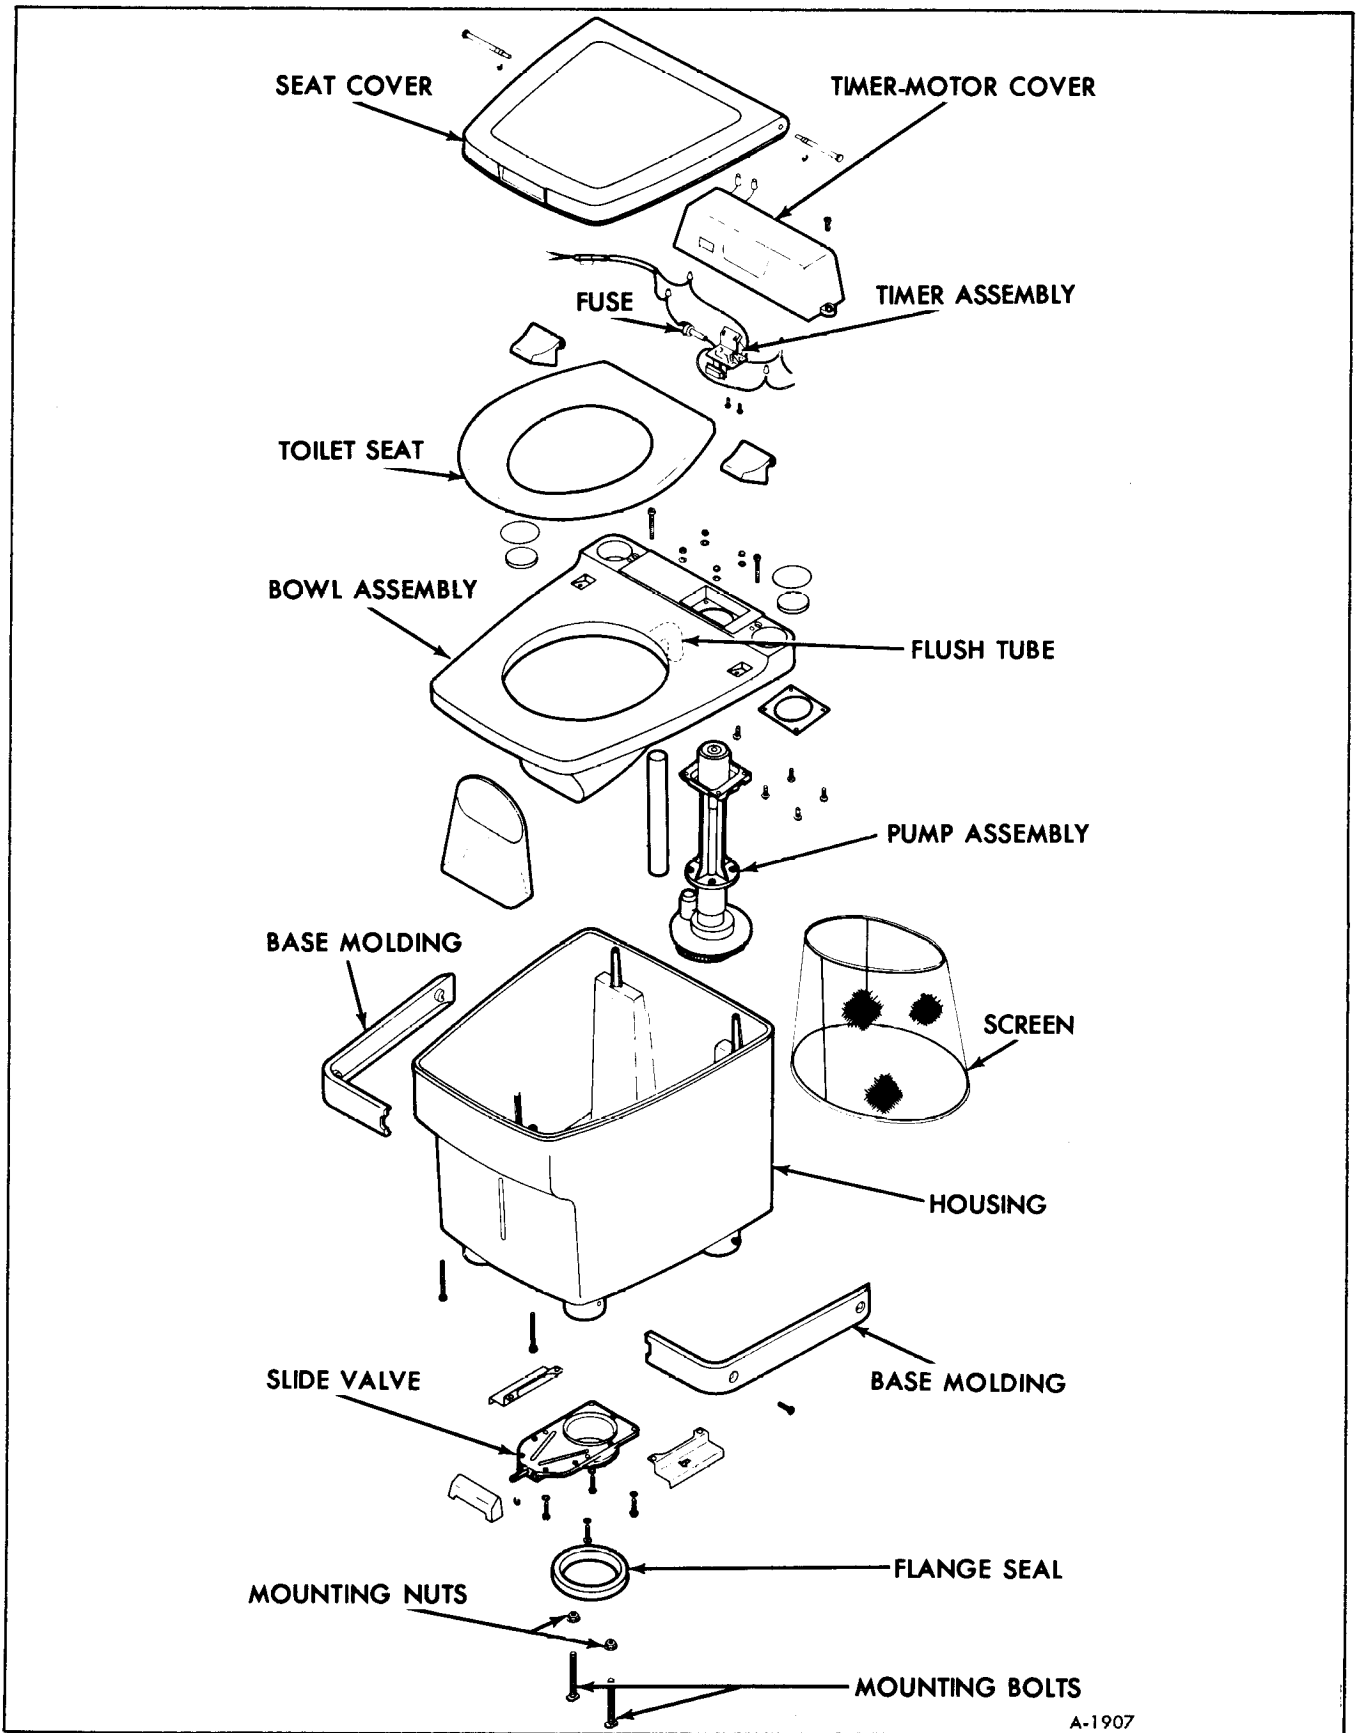

Figure 3-Recirculating Toilet Components
## DISASSEMBLY AND REPAIR (FIGURE 3)
2. The fuse is now accessible for checking or changing, see Figure 3.
1. Disconnect lead wires from power source (figure 3).
3. Disconnect leads from pump assembly motor (figure 3).
5. Remove cover and bowl assembly screws (two in rear from top side and two in front from bottom side) and remove cover and bowl assembly (figure 3).
6. Remove four pump mounting screws (figure 3).
7. Disconnect flush tube from pump outlet (figure 3).
8. Remove pump assembly (figure 3).
### SLIDE VALVE REPLACEMENT (FIGURE 3)